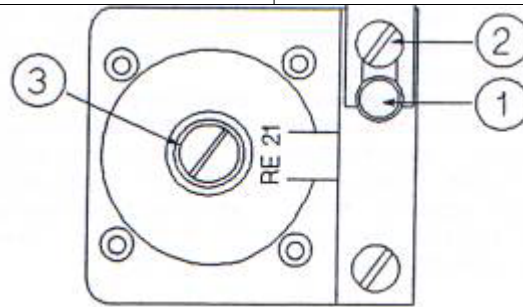

Figure 5. Pneumatic relay RE21
- A Clean the calibrated restrictor [**1**] in the relay RE21 (see fig.5).